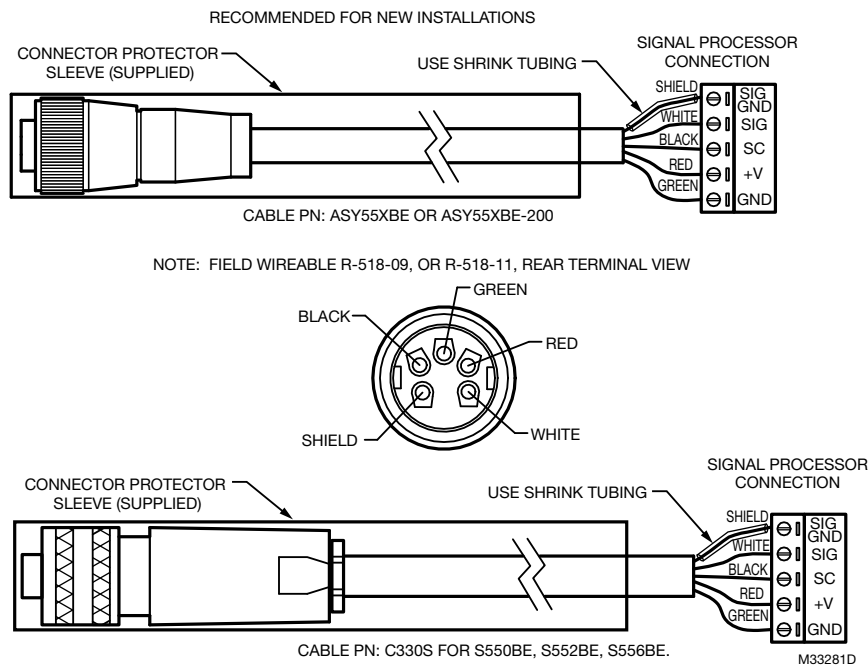

Fig. 2. Cable & Connections for the S550BE, S552BE, and S556BE viewing heads.
See Fig. 2 for S55xBE connections.
- Connection of the Honeywell type cable to the field wireable plugs is shown in Fig. 2, and should be done as follows:
9. Proceed to wire the connector as follows: (Refer to Fig. 2 for terminal locations.)
- g. For the S55XBE viewing heads, slide the connector protective sleeve over the connector. The cable at the signal processor end should be prepared in a similar way to the plug end. Follow the wiring connections as shown in Fig. 2.